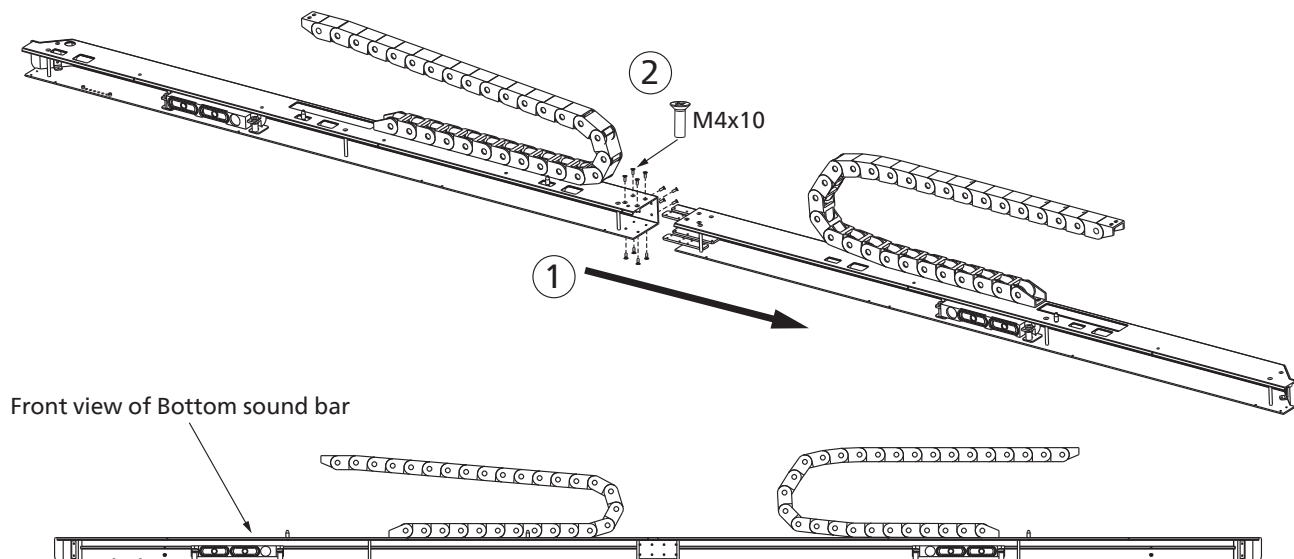

Figure 13 Connect the Bottom sound bar
10. Take out the Bottom sound bar and connect it with screws, as shown in Figure 13.